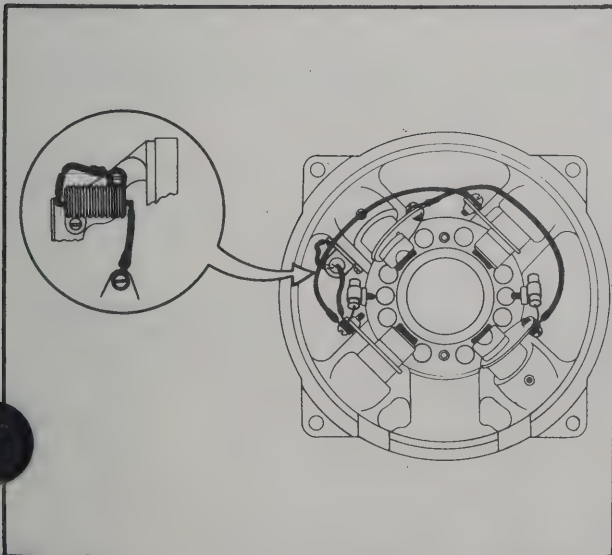

Figure 9-1. AC End Shield Assembly
a. Assemble the resistor assembly to the AC end shield assembly (66). Slide a capacitor (58) into each of two capacitor clamps (56) and secure in the end shield with the screw (54) and washer (55). Refer to figure 9-1 and make up the terminal and lead connections as indicated. Assemble the air duct (59, figure 4-6) to the AC end shield assembly (66).
b. Make sure that the DC brush spring pins are centered in each of the brush holders (35). Slide two springs (33) on each pin. Do not tighten the setscrew (34) until spring pressure has been adjusted from 21-25 OZ at a new brush position. Seal setscrew with Glyptal Enamel.